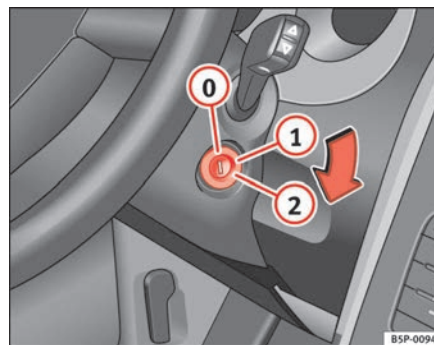

Fig. 118 Ignition key positions
In this position ⇒ fig. 118 the ignition and the engine are OFF and the steering may be locked.
- Turn the ignition key to position ⇒ page 156, fig. 118  1. The indication lamp  will light for engine pre-heating.
- Turn the ignition key to position ⇒ page 156, fig. 118 .